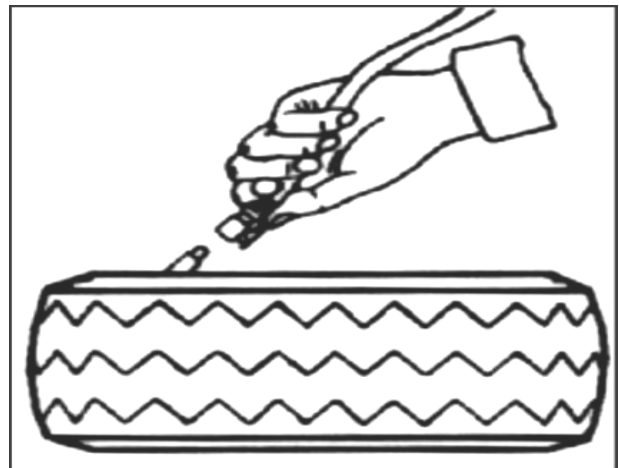

FIG 9
2. Connect the inflation hose with the tire valve (FIG 9).